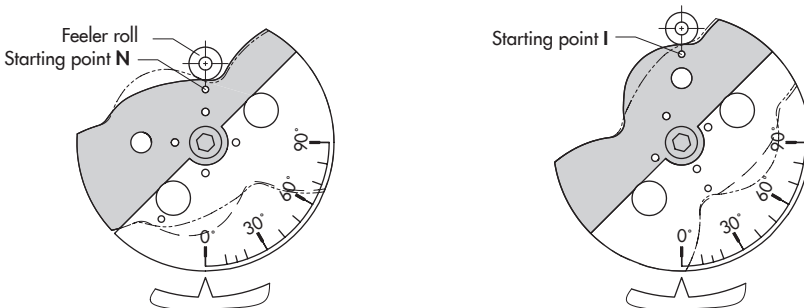

Fig. 10: Cam disk settings for double-acting actuators
Fig. 9 and Fig. 10 show linear cam disks.
Fig. 10 shows how to adjust the cam disk when a double-acting springless rotary actuator is used. The direction of rotation (either counterclockwise or clockwise) depends on the actuator and valve model used. The cam disk must be set when the valve is closed. Use the turnboard (7) to adjust the operating direction of the positioner, i.e. whether the valve opens or closes when the reference variable increases (direct >> or reverse <>).